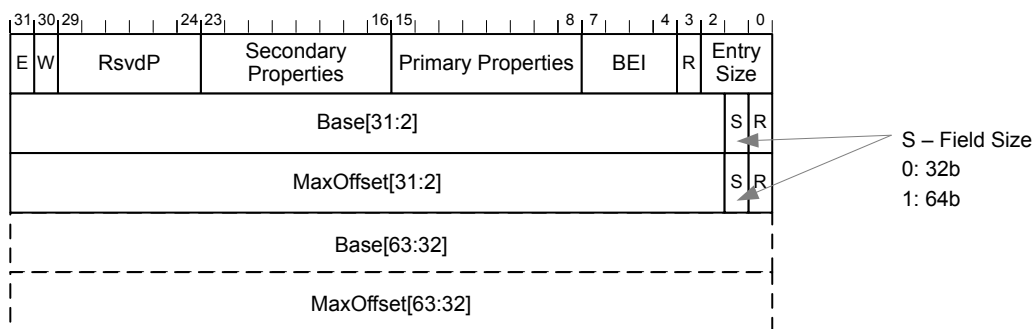

Figure 7-138 Format of Entry for Enhanced Allocation Capability
Figure 7-138 illustrates the format of a complete Enhanced Allocation entry for a Type 0 Function. For the Base and MaxOffset fields, bit 1 indicates if the field is a 32b (0) or 64b (1) field.